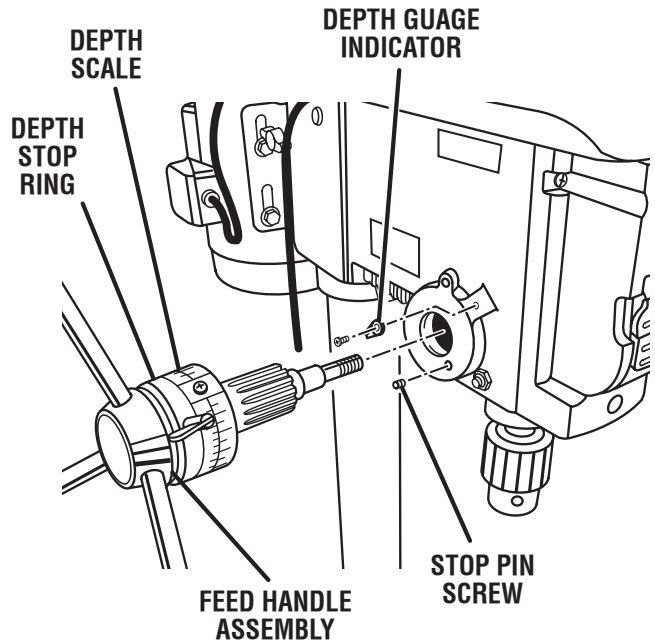

Fig. 26
- Remove the depth scale and reposition so numbers are legible as shown. *See Figure 26.*